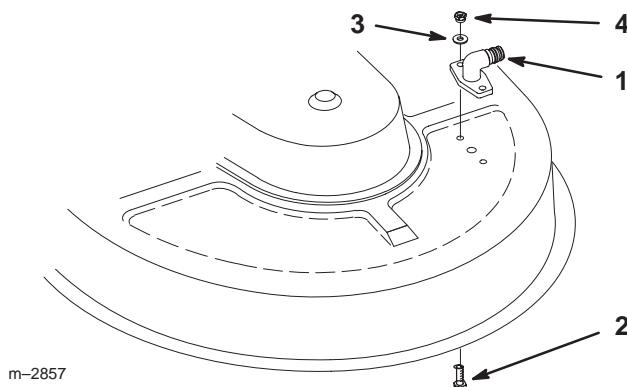

Figure 5
9. Place fitting on mower facing outward, and secure with (2) 1/4-7/8" (22 mm) bolts, (2) 1/4" (7 mm) washers and (2) 1/4" nuts (Fig. 5 or 6).